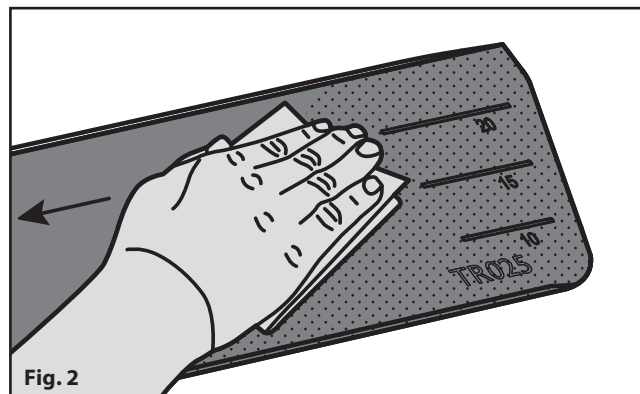
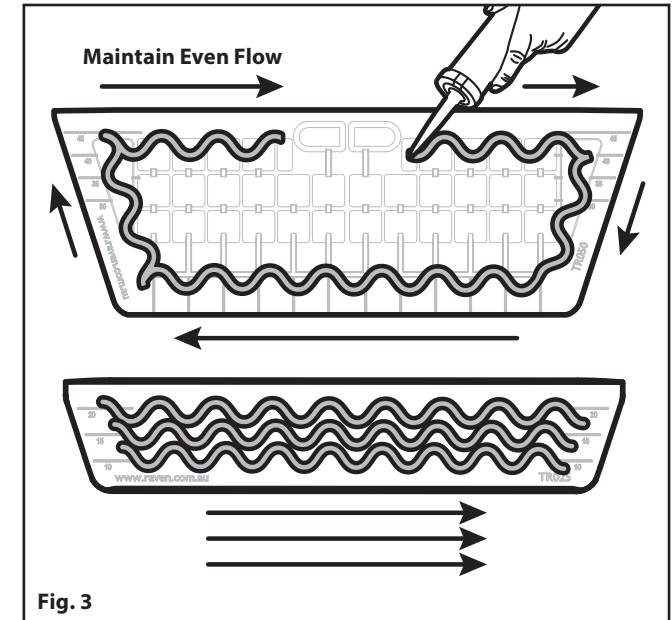

Fig. 2
Fig. 3
4. Apply adhesive along the underside perimeter of the ramp in a zig-zag pattern to ensure best ramp and ground contact coverage. Ensure to stay 15-20mm away from the edge (Fig. 3).
2. Use 120 or 80 grit sandpaper to rough up the underside surface of the ramp, refer (Fig. 2) and (Fig. 3).